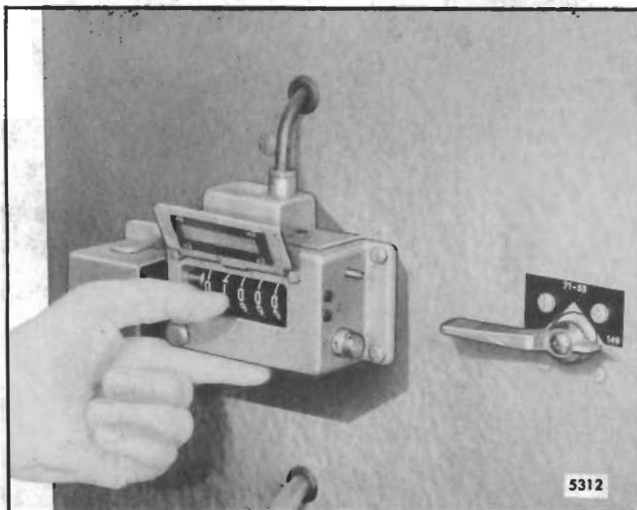

Fig. 22 - Setting Calibrator Stroke Counter
**NOTE:** Make sure the counter (Fig. 22) on the calibrator is preset at 1000 strokes. If for any reason this setting has been altered, reset the counter to 1000 strokes by twisting the cover release button to the left and hold the reset lever in the full up position while setting the numbered wheels. Close the cover. Refer to the calibrator instruction booklet for further information.